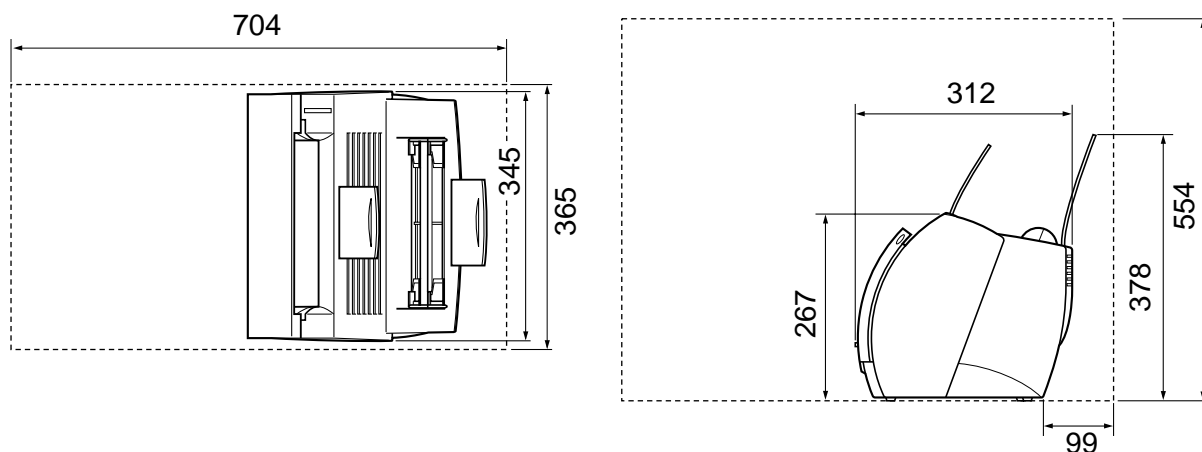

Figure 1-5-1
- Set the printer at a suitable distance from the wall for easy operation (See Figure 1-5-1.) There must be enough space around the printer to operate.